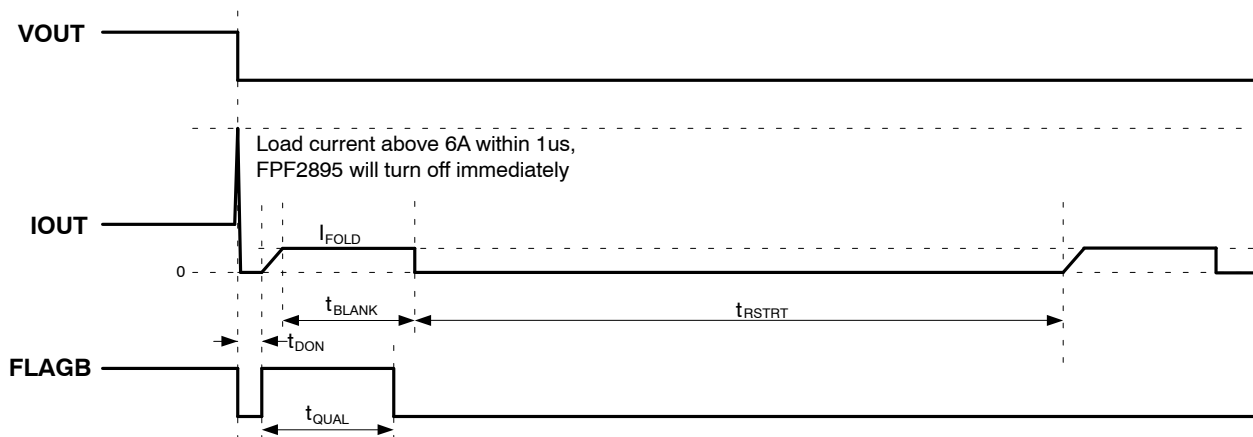

Figure 9. $VOUT$ Hard Short to GND ($OC_MODE = HIGH$ & $FLAGB$ Is Pulled Up With an External VIO)
6. 6 A absolute limit current value. See Figure 9. for protection timing diagram.